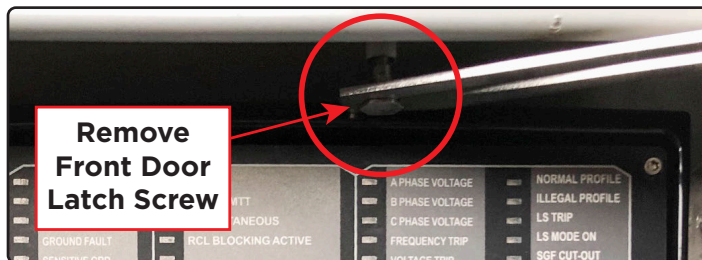

Figure 14 Remove Front Door Latch Screw from Top of Cabinet
3. Remove the Latch nut at the top of the cabinet that attaches the front door bracket, using either a nut driver or 3/8" wrench (Figure 14). This will allow clearance for the control to be removed from the front side of the cabinet. Save the Latch nut.